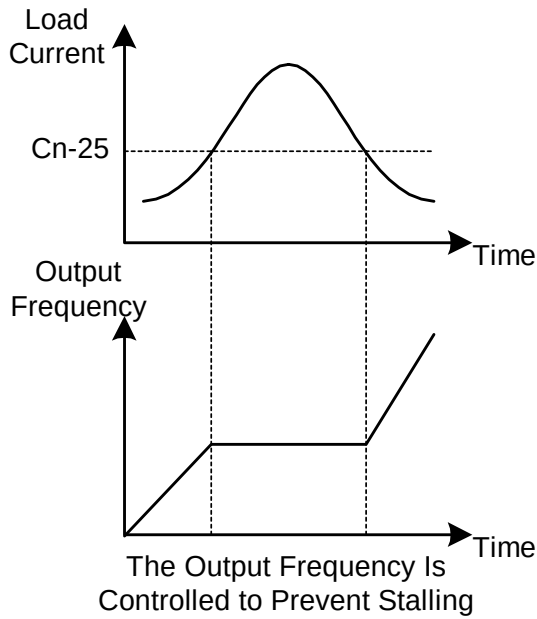

Figure 24 Stall Prevention During Acceleration
- Stall Prevention During Acceleration : See Figure 24. Inverter stops accelerating if Cn-25 setting is exceeded. Accelerates again when the current recovers.